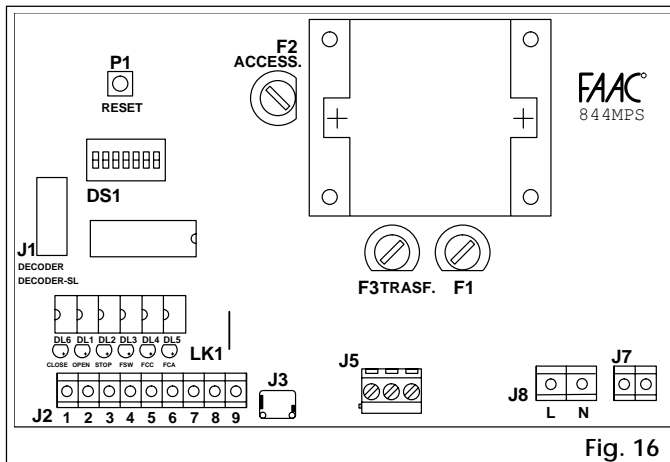

Fig. 16
① **Low voltage terminal block J2** (Fig. 16) is used to connect all accessories (see Table 4).
④ **Terminal block J6 (fig. 16)**
⑤ **Terminal block J7 (fig. 16)**